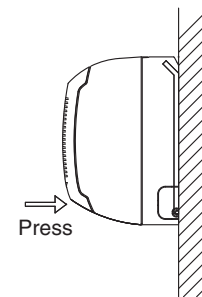

Fig. 3-164
2. Press on the air outlet to hold it in place, and press the lower part of the indoor unit until a “click” sound is heard and the indoor unit is securely fastened to the installation tabs on the lower side of the rear panel. (Fig. 3-164)